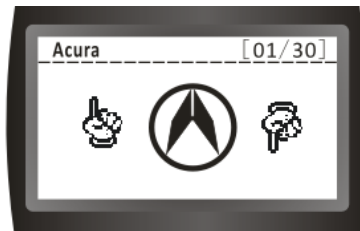

Figure 5
- 2、 After a few seconds, it will switch to: “carmaker select”: (Figure 5)